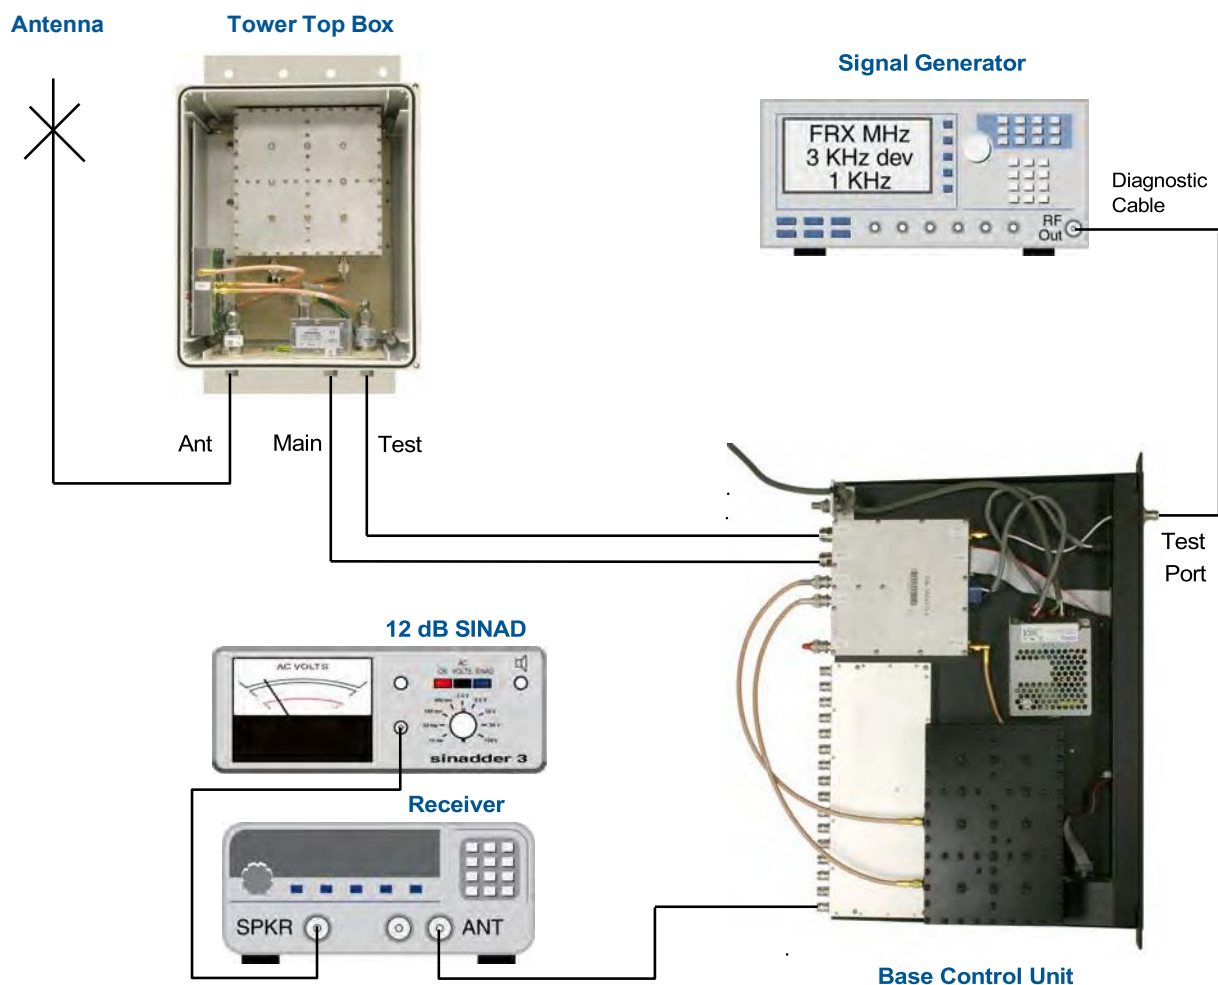

Figure 17: Using the test port to measure sensitivity of the system.
- 3) The test receiver and SINAD meter (or bit error rate meter if appropriate) should be connected to one of the RF outputs at the rear of the base unit. Refer to **Figure 17**.